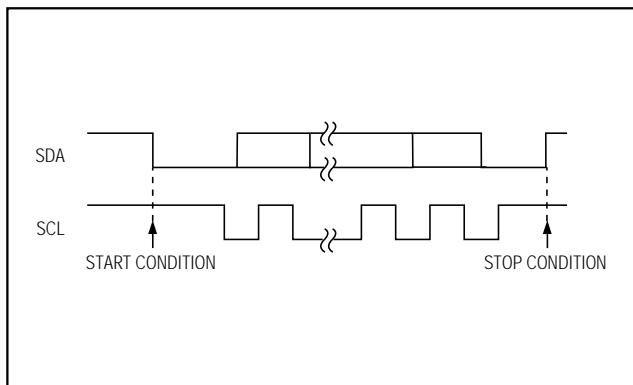
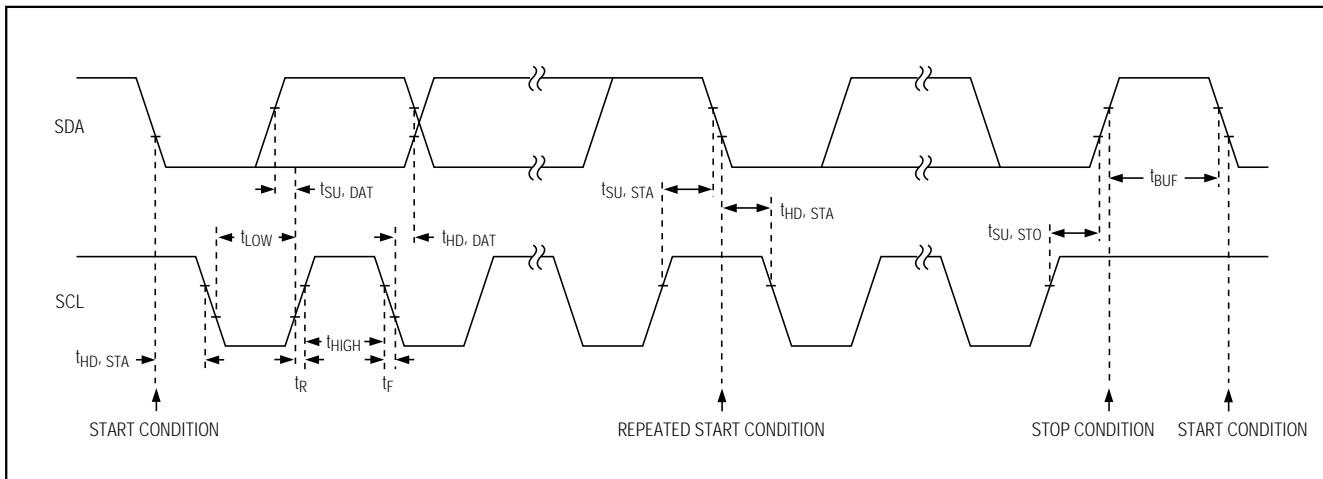
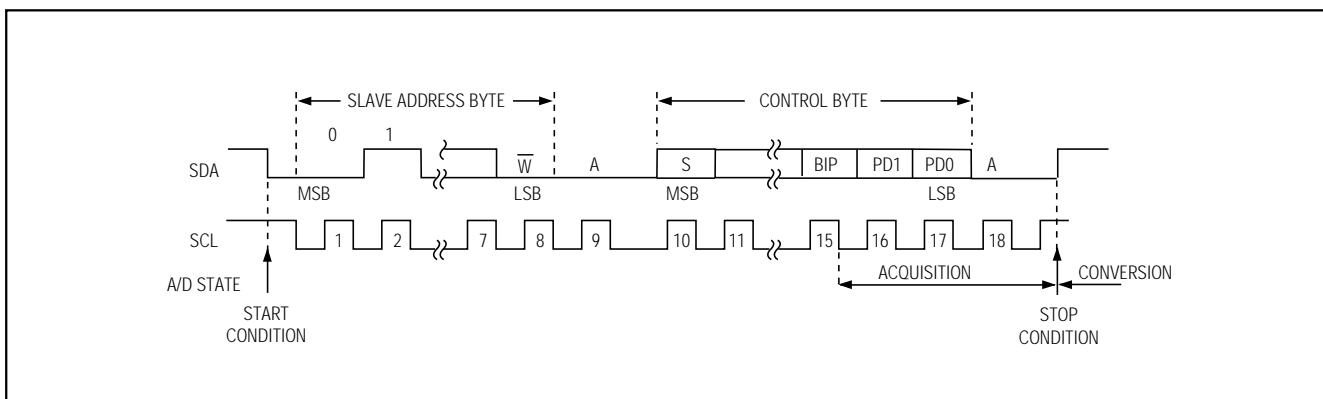

Figure 4. START and STOP Conditions
Figure 5. 2-Wire Serial-Interface Timing Diagram
Figure 9. Complete 2-Wire Serial Write Transmission
The master signals the beginning of a transmission with a START condition (S), which is a high-to-low transition on SDA while SCL is high. When the master has finished communicating with the slave, the master issues a STOP condition (P), which is a low-to-high transition on SDA while SCL is high (Figure 4). The bus is then free for another transmission. Figure 5 shows the timing diagram for signals on the 2-wire interface. The address-byte, control-byte, and data-byte are transmitted between the START and STOP conditions. The SDA state is allowed to change only while SCL is low, except for the START and STOP conditions. Data is transmitted in 8-bit words. Nine clock cycles are required to transfer the data in or out of the MAX127/MAX128. (Figures 9 and 10).
When the write bit is set ($R/W = 0$), acquisition starts as soon as Bit 2 (BIP) of the input control-byte has been latched and ends when a STOP condition has been issued. Conversion starts immediately after acquisition. The MAX127/MAX128's internal conversion clock frequency is 1.56MHz, resulting in a typical conversion time of 7.7 μ s. Figure 9 shows a complete write cycle.